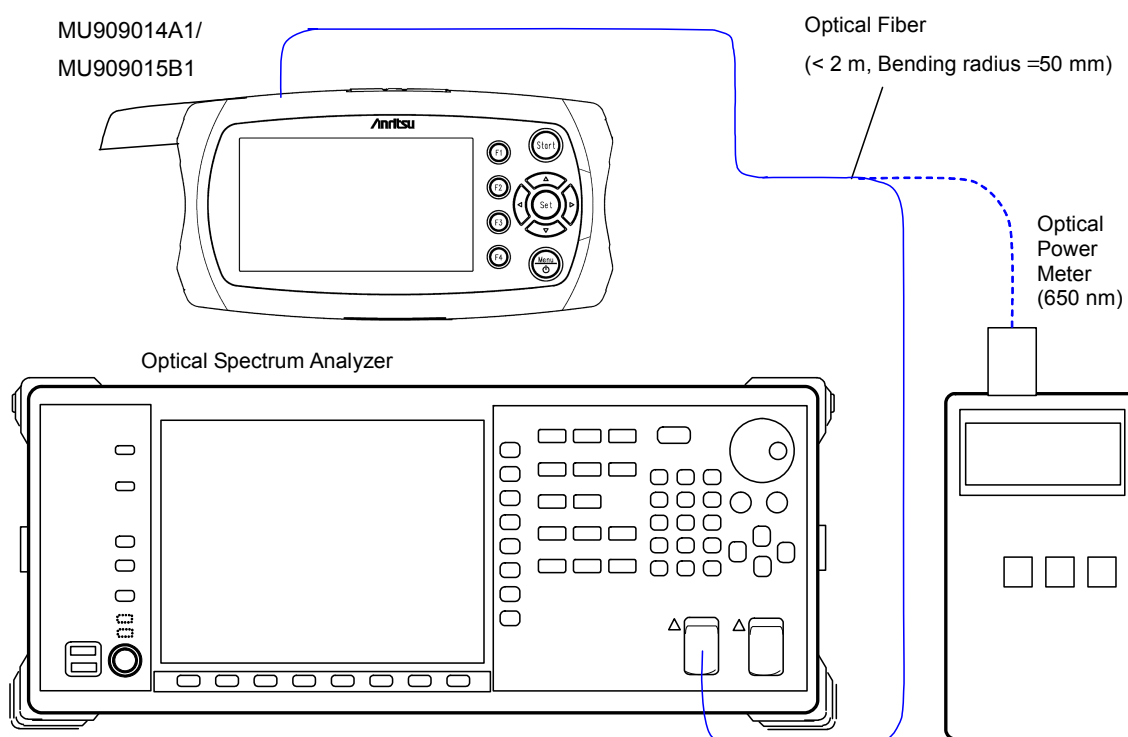

Figure 11.1.8-1 Optical Power Level and Wavelength of VFL Test - Connection Diagram
1. Connect the devices as shown in Figure 11.1.8-1.
8. Connect the VFL output of the main frame to the optical power meter as shown in Figure 11.1.8-1.